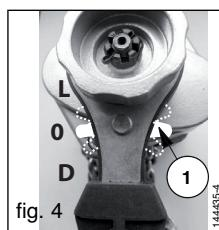

fig. 4
2. Set the movement selector lever (item 1, fig. 4) to the neutral position "0".
4. If it is not possible to turn the load wheel put the selector lever in the "D" position (fig. 4) and operate the lever handle whilst exerting some force on the hook side of the chain with your hand. Place the selector lever in the "0" position and pull on the chain, which is thus released, using the low limit stop.
1. To lift, pull or tension: put the selector lever to "L" position (fig. 4) and operate the lever handle back and forth.